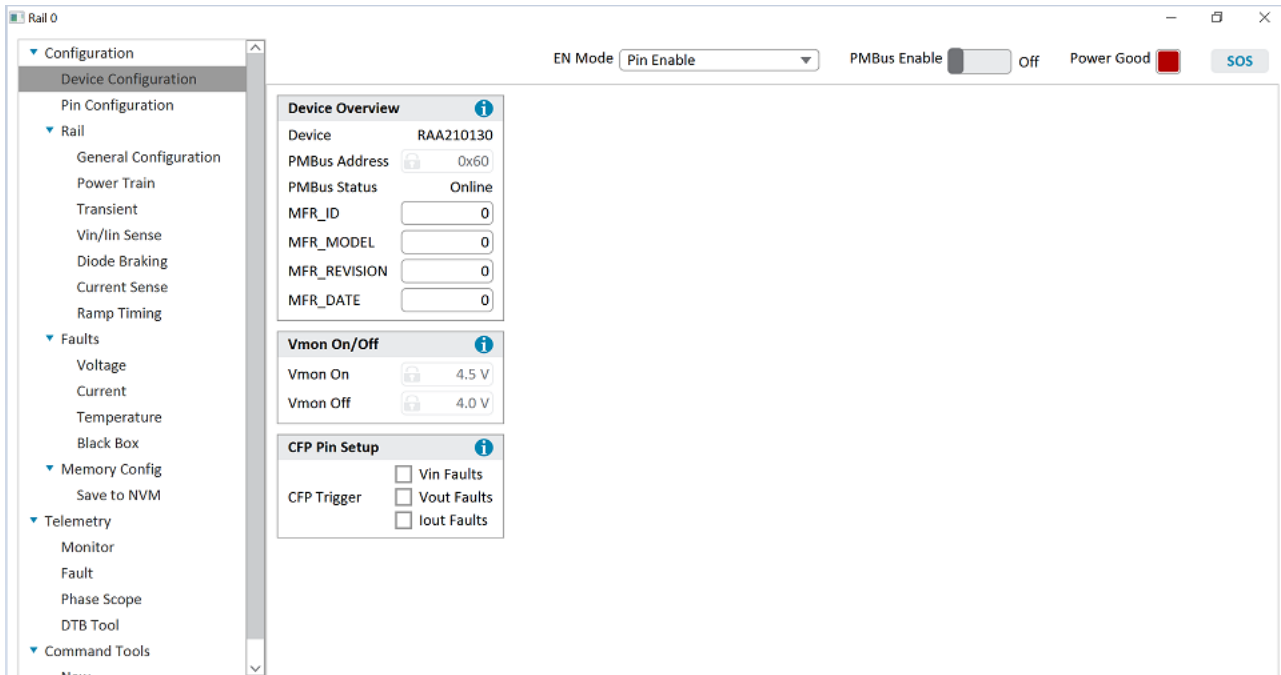

Figure 5. PowerNavigator Configurations Page.
- Double-click on Rail 0 box in the middle panel of the page. A configurations page shown in Figure 5 appears. The items on the left panel can be selected and its associated parameters modified according to your requirements.